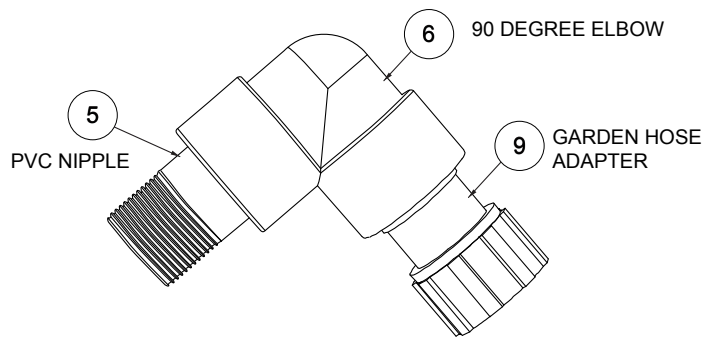
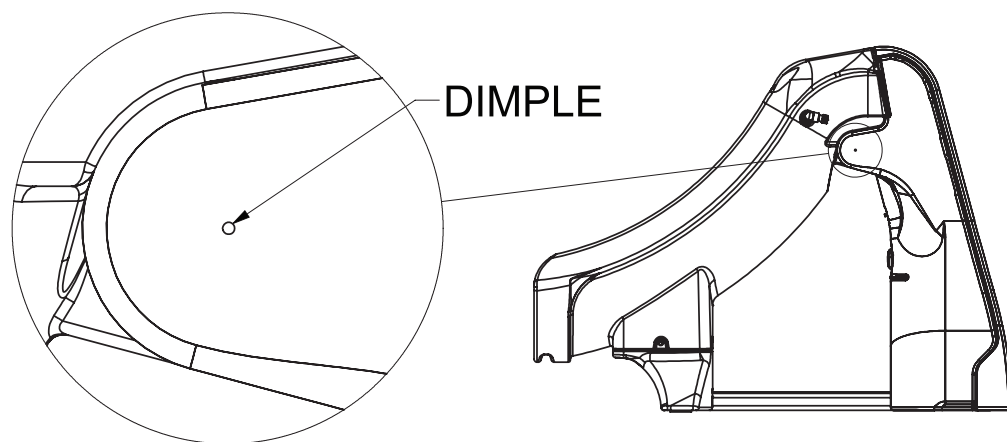

Figure 8
Figure 9
8. Observe the position of the exit of the slide as shown in **Figures 8, 9 and 10** on pages 13 and 14.
1. Thread the nipple (5) into 90° elbow (6) as shown in **Figure 8**. It is recommended to apply a thread sealant or Teflon tape to the threads to prevent leaking.
2. Install assembled nipple (5) and elbow (6) into the threaded hole in the left side of the runway.
3. Turn the assembled nipple (5) and elbow (6) until the open end of the elbow fitting is pointing back toward the bottom of the stairs as shown in **Figures 9** and **11**.
4. Install the garden hose thread adapter (9) into the open end of the elbow fitting (6) as shown in **Figure 8**. It is recommended to apply a thread sealant or Teflon tape to the threads to prevent leaking.
5. Locate the dimple on the left side of the ladder as shown in **Figure 9**. Place the hose clip screw (8) through the hole in the hose clip (7). Align the screw with the dimple in the ladder, and install the screw into the ladder side wall. Tighten until snug making sure not to overtighten the screw.